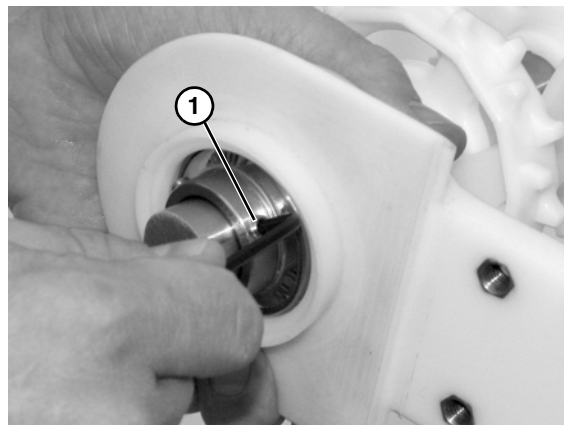

Figure 47
6. Loosen set screws (Figure 47, item 1).